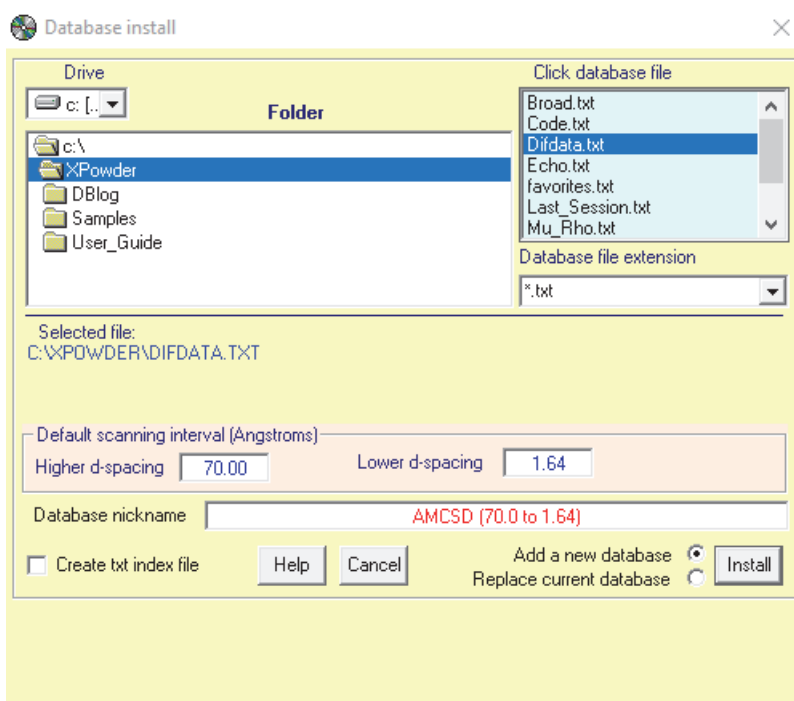

Figure C-2 Database install
2. In the **Drive** list, click the down arrow to locate the USB flash drive (see Figure C-2 on page 89).